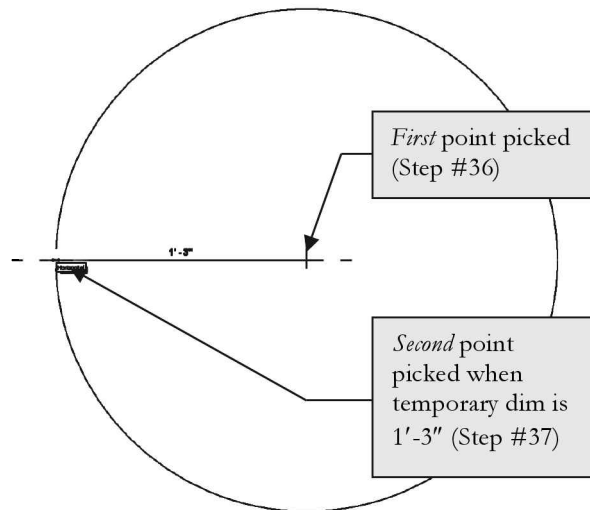

FIGURE 4-2.11 Sketching an arc; picking second point
36. *First pick:* Pick a point somewhere in the middle of a new family file (Figure 4-2.11).
37. *Second pick:* Move the cursor towards the left, while snapped to the horizontal, until the temporary dimension reads **1'-3"** (Figure 4-2.11).
NOTE: As you can see, Revit temporarily displays a full circle (Figure 4-2.11) until you pick the second point. This is because Revit does not know which direction the arc will go or what the arc length will be. The full circle allows you to visualize where your arc will be.